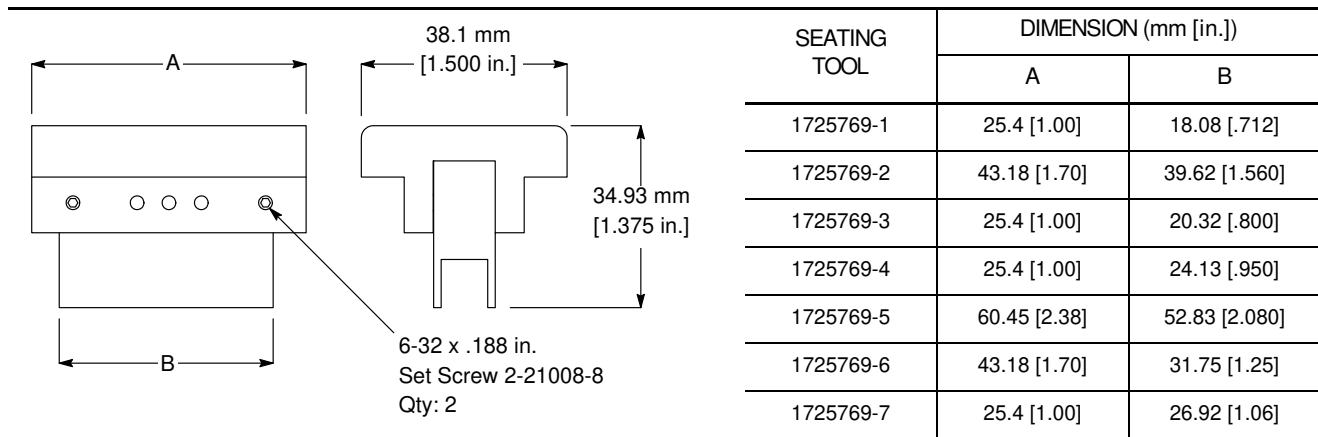

Figure 3
Customer-replaceable parts are listed in Figure 3. Parts other than those listed should be replaced by TE Connectivity to ensure quality and reliability. Order replacement parts through your TE Representative, or call 1-800-526-5142, or send a facsimile of your purchase order to 717-986-7605, or write to:
- Changed metric dimension in Figure 3